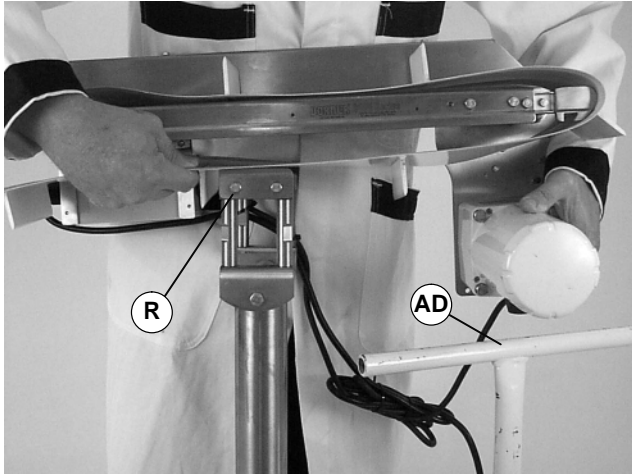

Figure 22
The weight of the gearmotor is all on one end of the conveyor which could cause it to tip off the stands when the mounting clamp plates are loosened. Be sure to provide support (AD of Figure 22) underneath the gearmotor while changing the belt.
6. Temporarily support conveyor at gearmotor mounting package (AD of Figure 22).
7. Loosen the mounting clamp plates (R of Figures 22 and 23), on both sides of the conveyor. Raise the conveyor and remove the belt.
2. Loosen the mounting clamp plates (R of Figures 22 and 23), on both sides of the conveyor. Raise the conveyor and replace the belt.
4. Tighten clamp plates screws (R) to 92 in-lb (10.4 Nm).